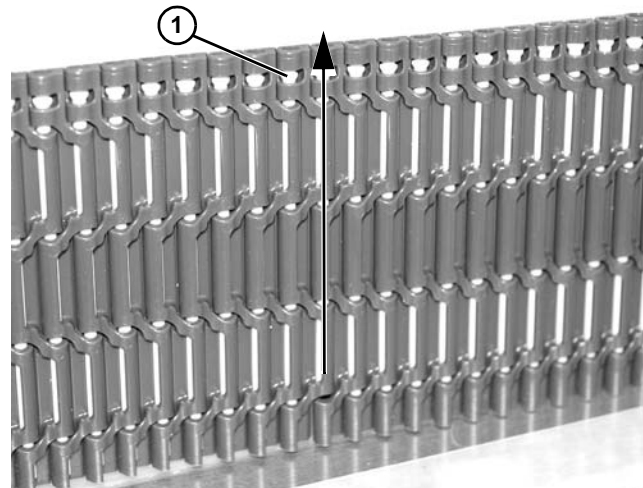

Figure 23
1. Choose one link on either end of the conveyor to remove belt pin. Locate end of rod without retaining feature (**Figure 23, item 1**).